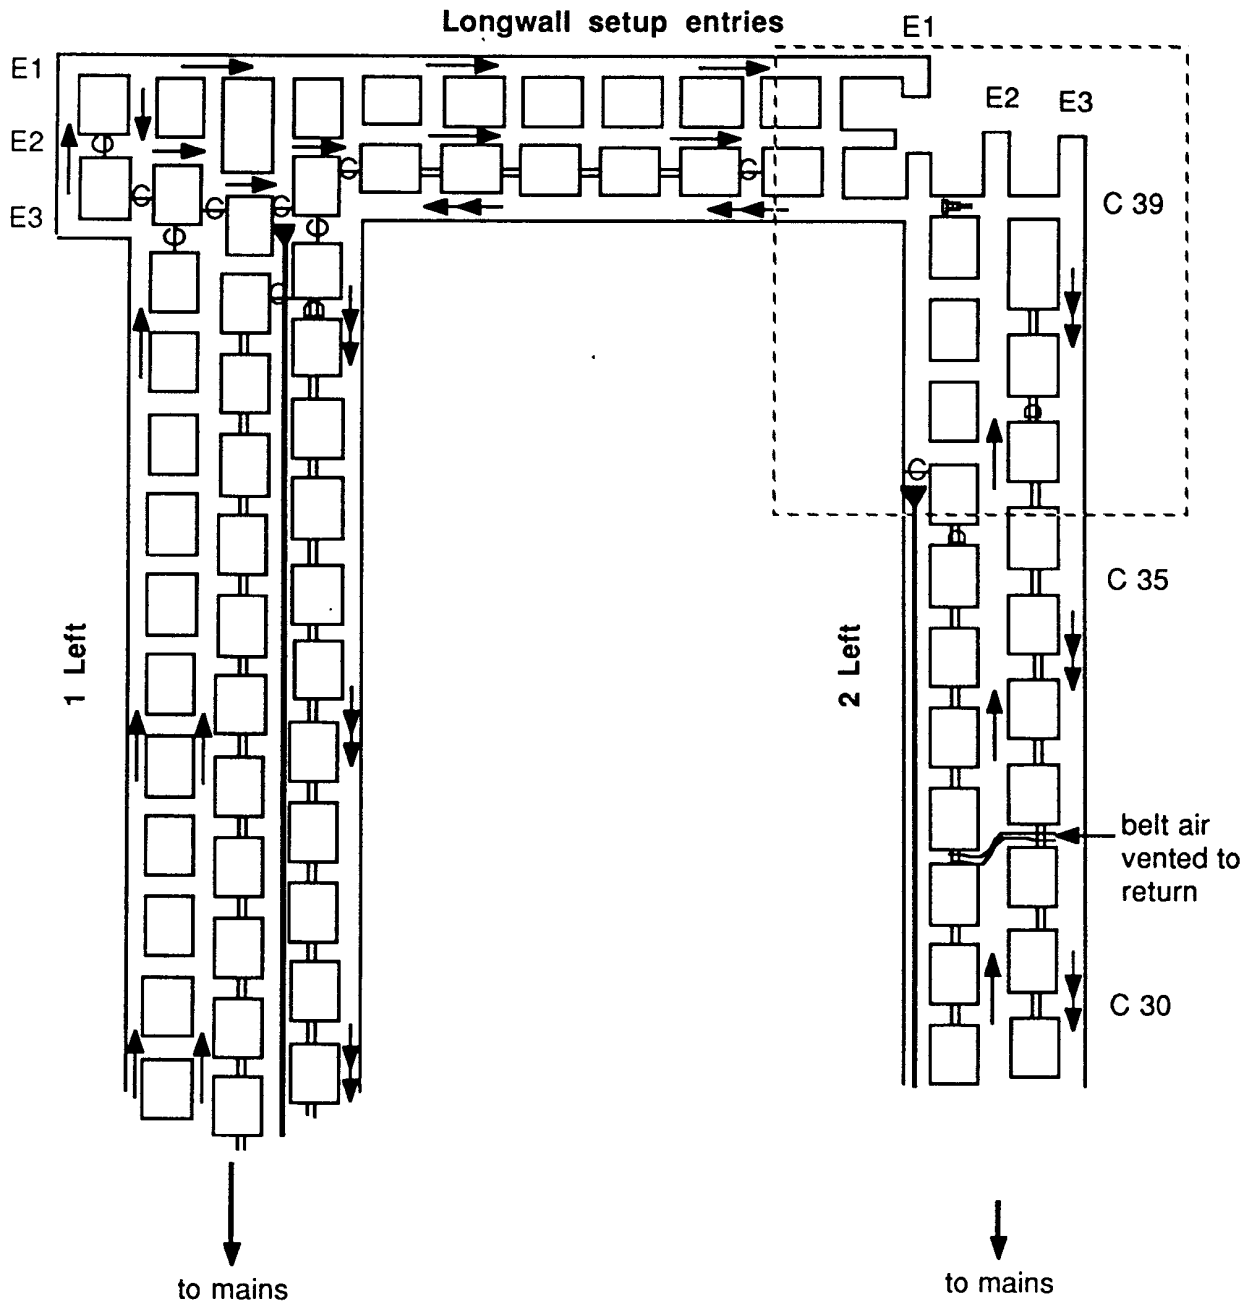

Figure 4A: Sketch a good ventilation arrangement within the dotted line box
13. What changes would you make in the ventilation of the section? Mark your ventilation changes on the map in Figure 4A. Mark only the section within the dotted line box. (Write only on the answer sheet.)